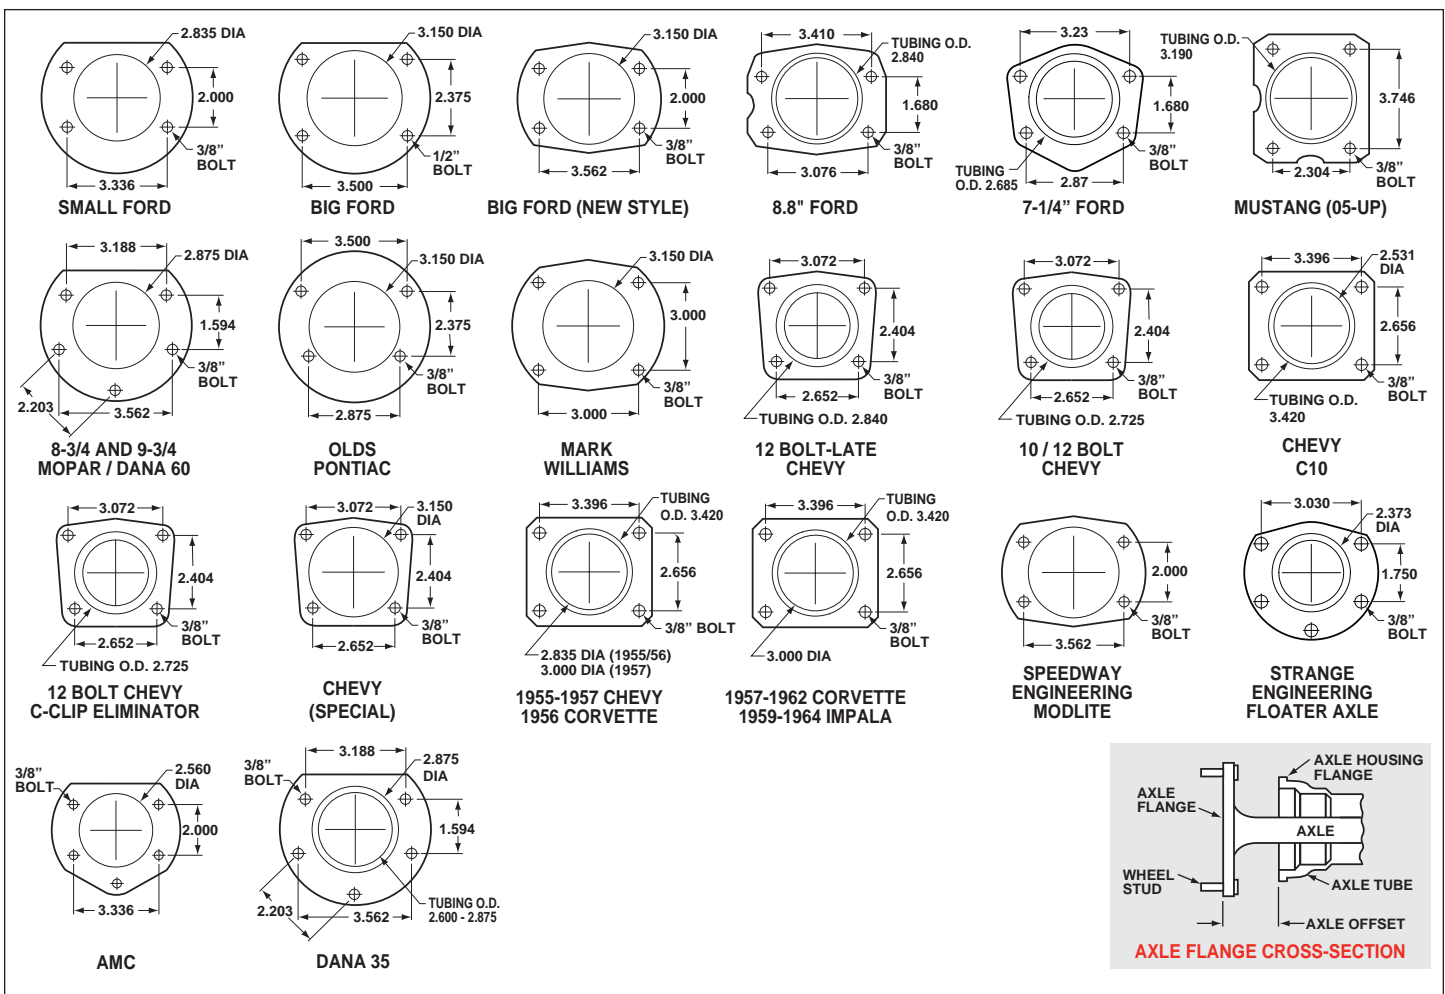

Figure 7. Rear Housing Flange Chart and Axle Flange / Offset Cross-Section
- Make sure this is the correct kit to fit the axle housing flange, not necessarily the rear end make. Many times aftermarket manufacturers put a different make of axle housing flange on the stock rear end housing (Figure 7). Example; Big Ford rear ends with Olds-Pontiac flanges, therefore, an Olds-Pontiac rear disc brake kit would be the correct kit to order. Also, shock clearance may be a problem. They may have to be modified and/or relocated to clear the Wilwood kit after final assembly.
- Dimension from wheel side of axle flange to wheel side of axle housing flange (see Figure 7, lower right hand corner). This dimension is critical to ensure proper alignment of the rotor to the caliper, and should match offset given in the kit description.